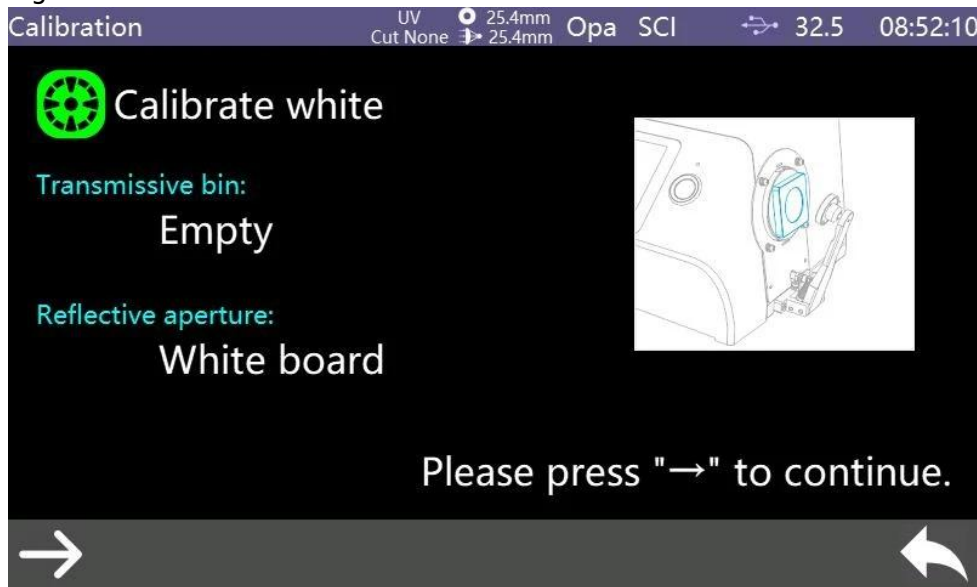

Figure 10
- 4, It will automatically enter White Calibration after Black Calibration is finished as shown in Figure 10.